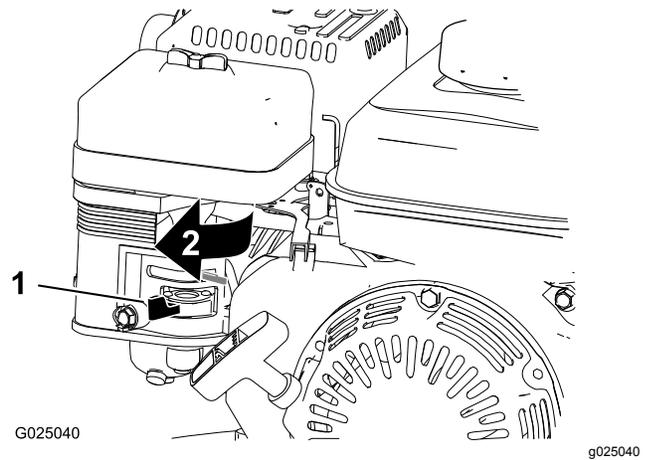

Figure 29
3. Move the fuel valve to the OFF position (Figure 29).